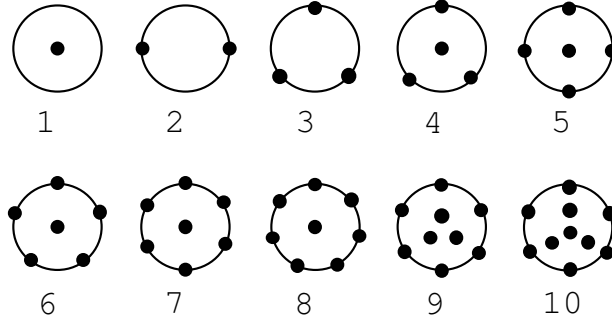

Figure 2.5: Predefined configurations for 1 through 10 sensor rays
- **numberOfRays**: number of rays cast by the sensor. If this number is larger than 1, several rays are cast and the sensor measurement value is computed from the weighted average of the individual rays activation. By using multiple rays, a more accurate model of a physical sensor is obtained. The sensor rays are distributed inside 3d-cones which opening angle can be tuned through the **aperture** parameter. Predefined ray configurations are used from 1 through 10 rays: see figure 2.5. These configurations are defined such as to obtain uniform distances between the rays and to preserve the sensor's left/right symmetry. The number of rays of a sensor must be at least one. There is no upper limit on the number of rays, however, Webots performance drops as the number of rays increases. From 11 rays the configurations are automatically arranged in several embedded cones with increasing diameters. The rays capacity of each cone is defined as $C(i) = 3 \cdot i + 1$, where i is the cone number starting with 0. Each time a cone's maximal capacity is reached a new cone is added containing a single ray and the other cone are resized such as to fit within the defined aperture angle.